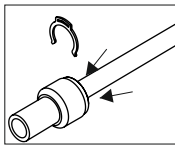

fig. 2
- 2) Symmetrically press the collets of the quick connector (fig. 2).